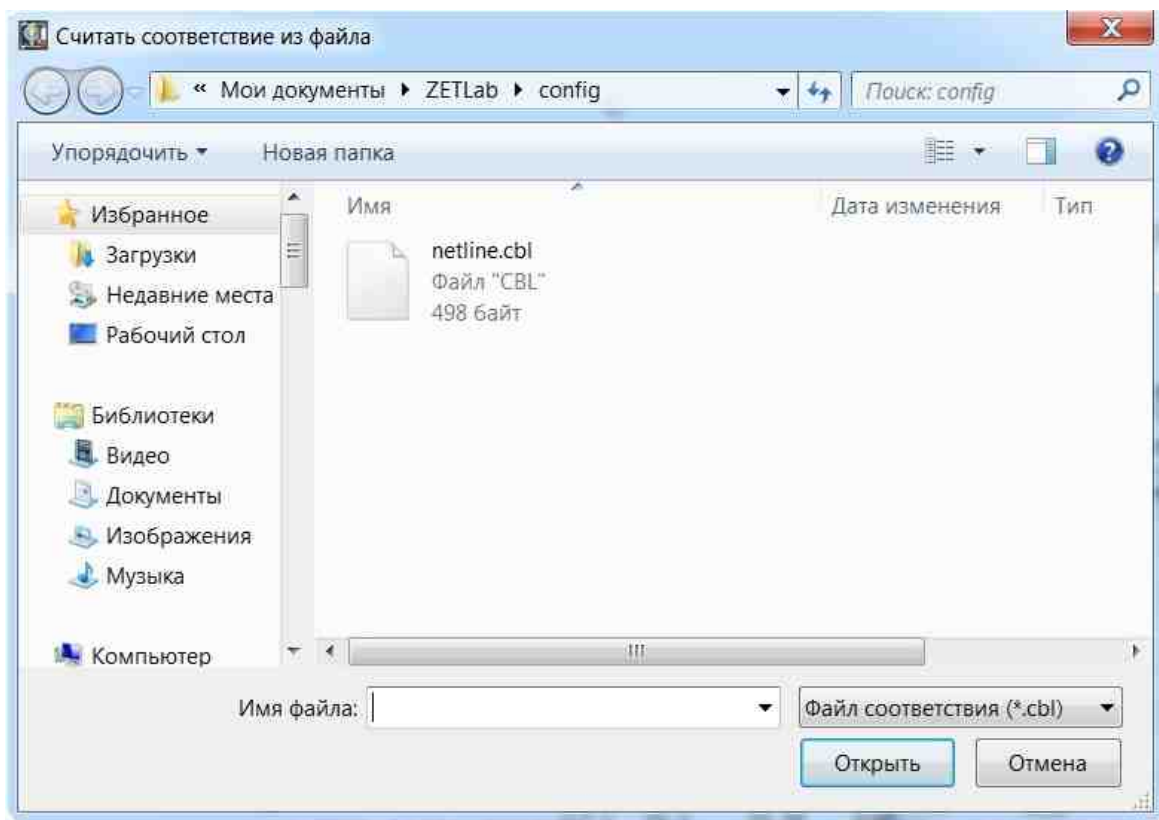

Fig. 3.9 You must select a file and click on the "Open" button;
■ click on the "Download" button allows you to download the previously created file (*Fig. 3.9*). To do this, in the "Read match from file" window.